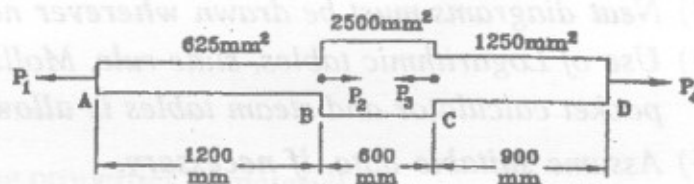

fig. 1 Q. 2 b)
- b) A member ABCD is subjected to a point loads P_1 , P_2 , P_3 and P_4 as shown in fig. 1. Calculate the force P_2 necessary for equilibrium if $P_1 = 45 \text{ kN}$, $P_3 = 450 \text{ kN}$, $P_4 = 130 \text{ kN}$. Determine the total elongation of the member, assuming the modulus of elasticity to be $2.1 \times 10^5 \text{ N/mm}^2$. 6